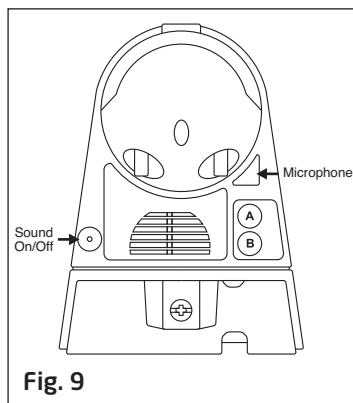

Fig. 9
■ **Recording your own messages (Fig. 9)**
Should the power to GuardCam be removed the sound setting will revert to option1 "warning you are being recorded by a security camera" as a default. If you wish to switch sound off completely please press the sound on/off button located on the base of the unit. See Fig 9.